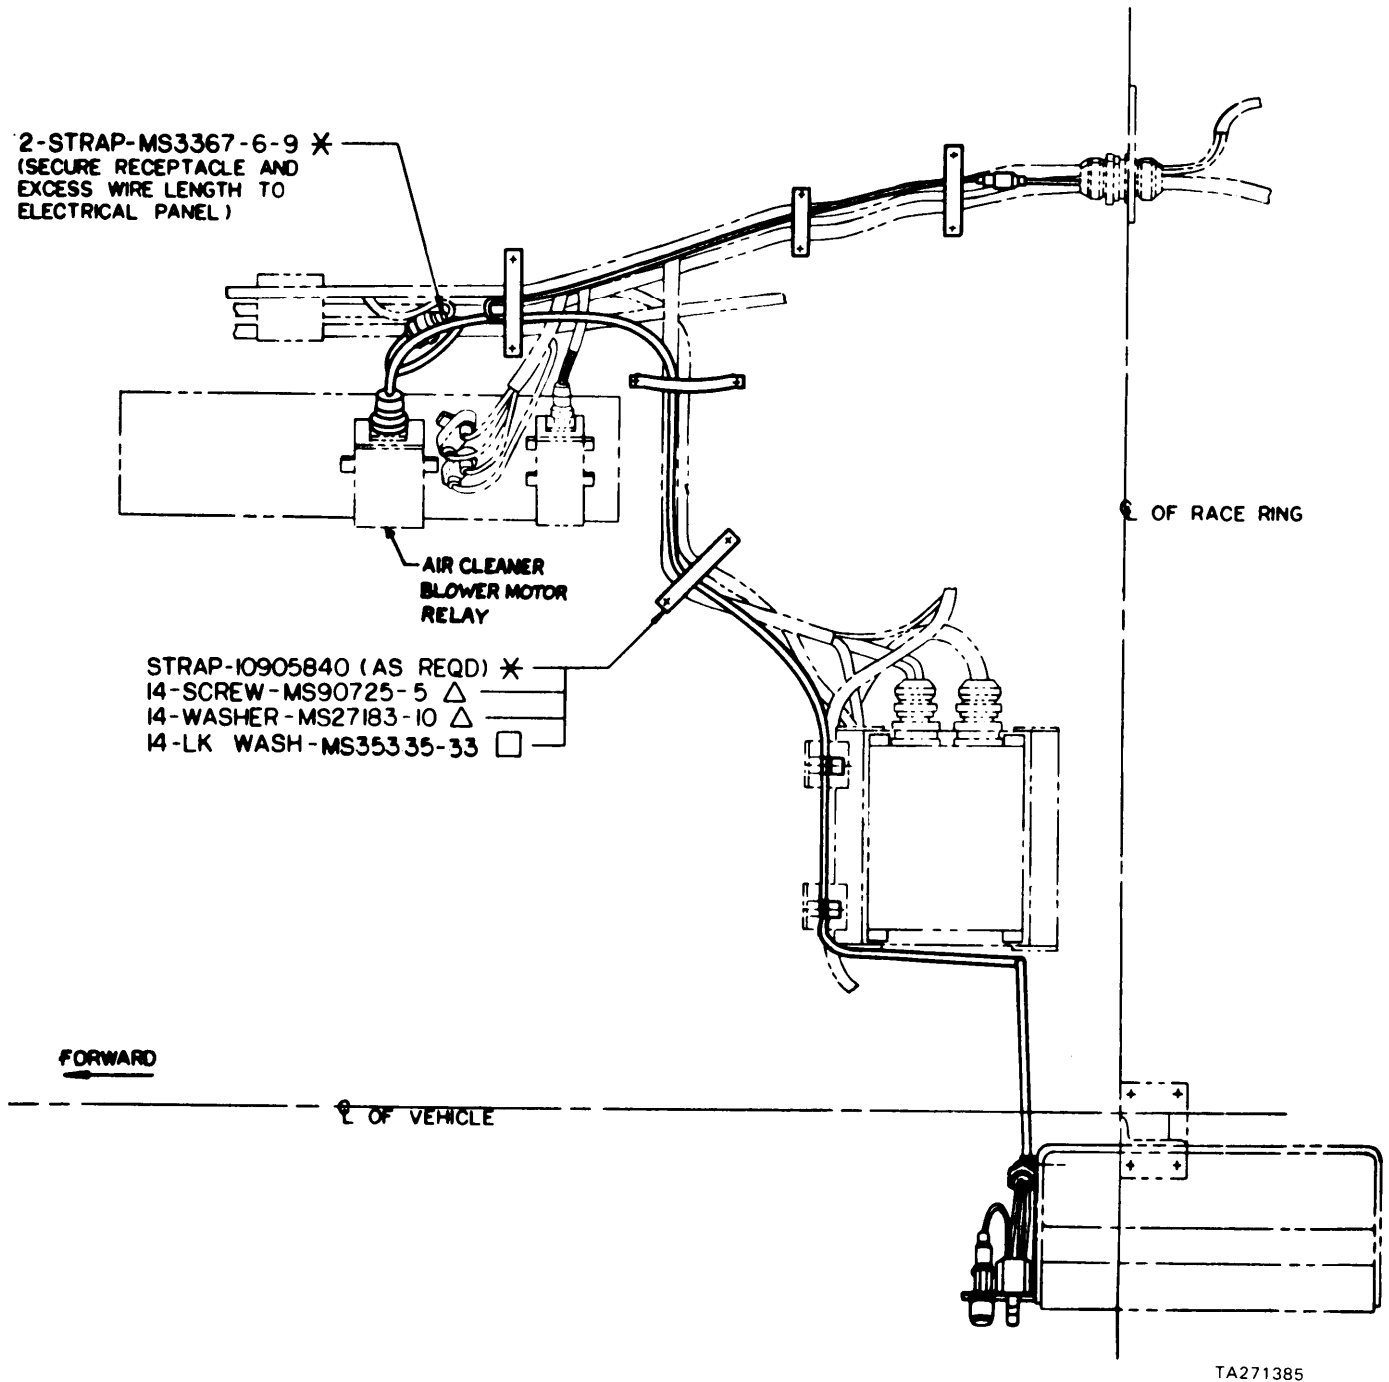

Figure 49. Top View of Harness Kit Installation for M60A1 AVLB
(5) Remove and retain one screw MS90725-5 and flat washer MS27183-10 from each of the wiring harness securing straps 10905840 as shown in figures 49 and 52.
(7) Secure the receptacle and excess cable with two straps MS3367-6-9 as shown in figures 49 and 52.
(10) Secure the total wiring harness with the previously removed straps 10905840 (refer to figures 49 and 52).